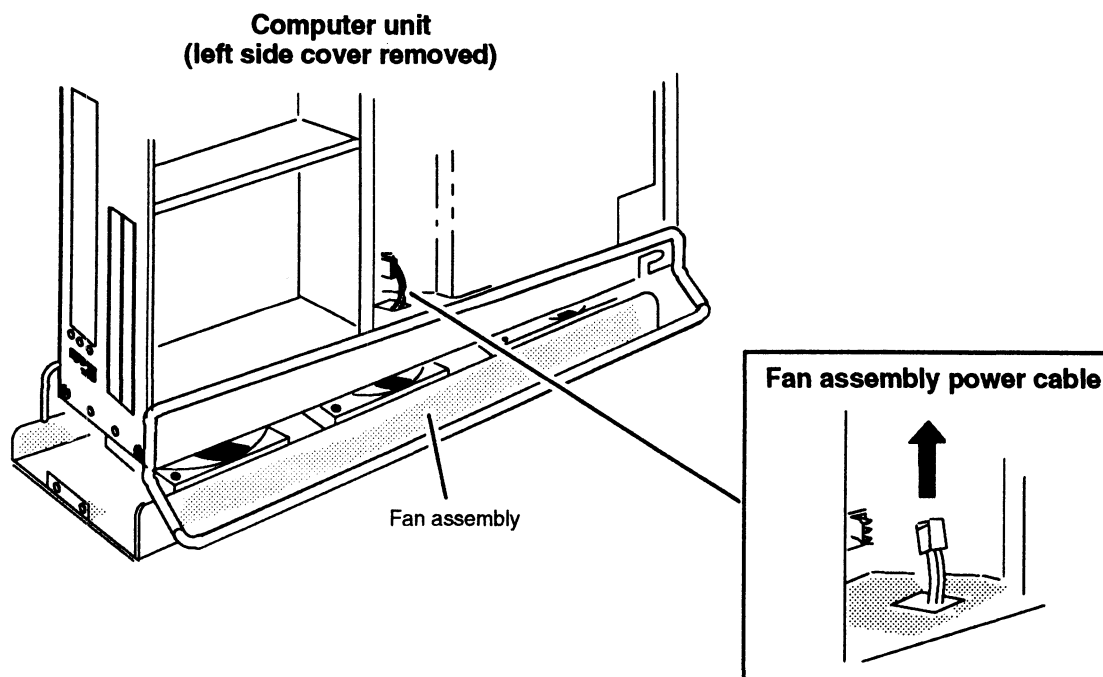

Figure 10–4 Positioning the Fan Assembly Under the Computer Unit
1. Slide the fan assembly directly under the computer unit as shown in Figure 10–4.
2. Pull the fan assembly power cable up through the hole in the computer unit as shown in Figure 10–4.